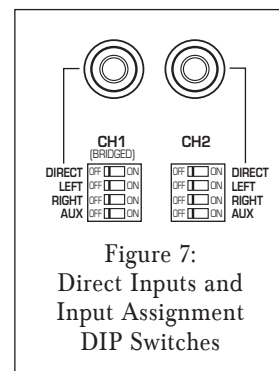

Figure 7:
- Connect zone-specific sources (audio control system zone output, video game, etc.) into the individual channel DIRECT inputs (see Figure 7).